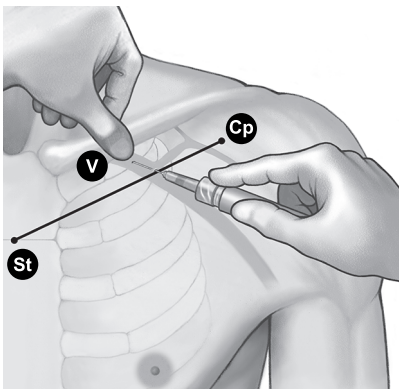

Figure 5. Location of thumb and needle entry
4. Press a thumb against the index finger and project 1–2 centimeters below the clavicle to shield the subclavius muscle from the needle (when hypertrophy of the pectoralis muscle is apparent, the thumb should project about 2 centimeters below the clavicle because the subclavius muscle should be hypertrophied as well) (Figure 5 Location of thumb and needle entry on page 14).